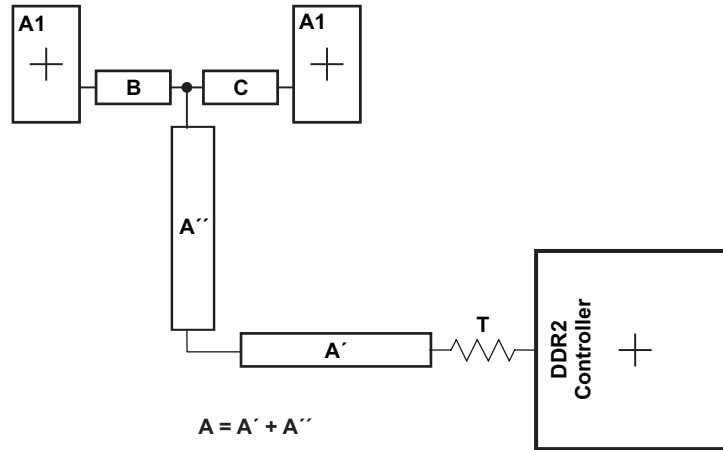

Figure 9-10. CK and ADDR\_CTRL Routing and Topology
Figure 9-10 shows the topology of the routing for the CK and ADDR\_CTRL net classes. The route is a balanced  $T$  as it is intended that the length of segments B and C be equal. In addition, the length of A ( $A'+A''$ ) should be maximized.
- (1) The length of segment  $A=A'+A''$  as shown in Figure 9-10.
- (2) Center-to-center spacing is allowed to fall to minimum (w) for up to 500 mils of routed length to accommodate BGA escape and routing congestion.
- (3) CACLM is the longest Manhattan distance of the CK and ADDR\_CTRL net classes.